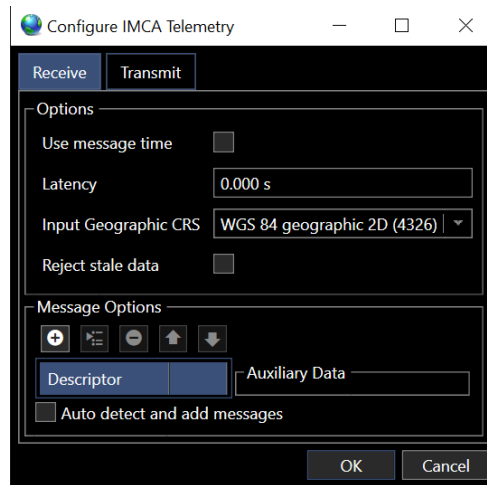

Figure 5 Configure IMCA Telemetry
1. Click the configure device  button to open Configure IMCA Telemetry dialog, see Figure 5